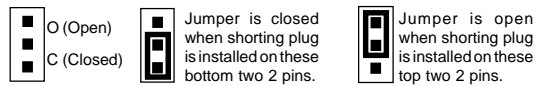

Figure 2 - Jumper Selections
Continuous (maintained) trigger: To playback a message recorded on Channel 1 or Channel 2, apply a positive (+) 9 to 14 Vdc to terminal **+V1** for Channel 1, or to terminal **+V2** for Channel 2. The message will play (and repeat) for as long as the power is applied, provided Jumper **JP2** ("Close For Single Play") is in the Open position. See Figure 2.
It is imperative that Jumper **JP1** be in the closed position (C) to enable the on-board microphone. In addition, jumper **JP2** should be in the open (O) position so that playback will be in the continuous Loop mode. See Figure 2.